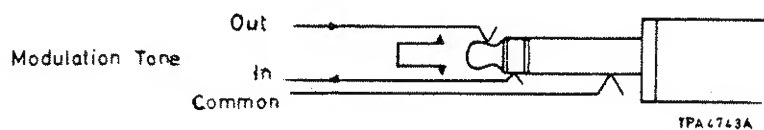

Fig. 2 Connections to external filter jack
- (1) Remove both top and bottom outer covers, detach and discard front and rear feet on bottom cover.
- (2) Detach and discard side trim infills, countersunk screws and screw cups.
- (3) Remove the front panel assembly and lay face down protecting the l.c.d's.
- (4) If it is required to bring the r.f. input in via the rear panel, carry out steps (5) to (8) otherwise go to step (9).
- (5) Remove the r.f. input coaxial socket from the front panel and transfer it to the blanked-off position on the rear panel (see Figs. 2 and 3, pages 4 and 6 in Chapter 3 for precise locations). It is not necessary to remove either of the two coaxial terminals from the r.f. lead in this process. Note that the lead is doubled back on itself for the full depth of the instrument before returning to the miniature bulkhead connector on the r.f. box immediately behind the front panel.
- (6) Unscrew the miniature connector and remove the type N r.f. input socket from the front panel by undoing the securing nut. Release the cable from its securing cleats and withdraw it completely from the instrument.
- (7) Remove the blanking off grommet from the hole in the rear panel and put it in place of the connector in the front panel. Remove the type N securing nut and washer from the lead by passing them over the miniature connector. Feed the lead back into the instrument by passing the miniature connector through the hole in the rear panel. Replace the washer and nut on the lead by passing them over the miniature connector. Feed the lead fully through the rear panel and assemble the type N connector to the panel.
- (8) The lead should be routed down through the recess in the edge of the bulkhead below the new input position. It can then be led diagonally across the base of the power supply, secured in place with a piece of adhesive tape, and returned to the original run of cleats along the bottom of the left-hand side panel and reconnected to the input bulkhead connector on the r.f. box.
- (9) Fit the rack brackets in the recesses of the side trims or of the panel handles if these are to be retained, using the 16 mm M4 pan head screws and washers and discarding the plastic trim infills. Finally, refit top and bottom covers.
10. The connections are shown in Fig. 2. The source impedance is low - a few ohms - and the input impedance is 100 k Ω .